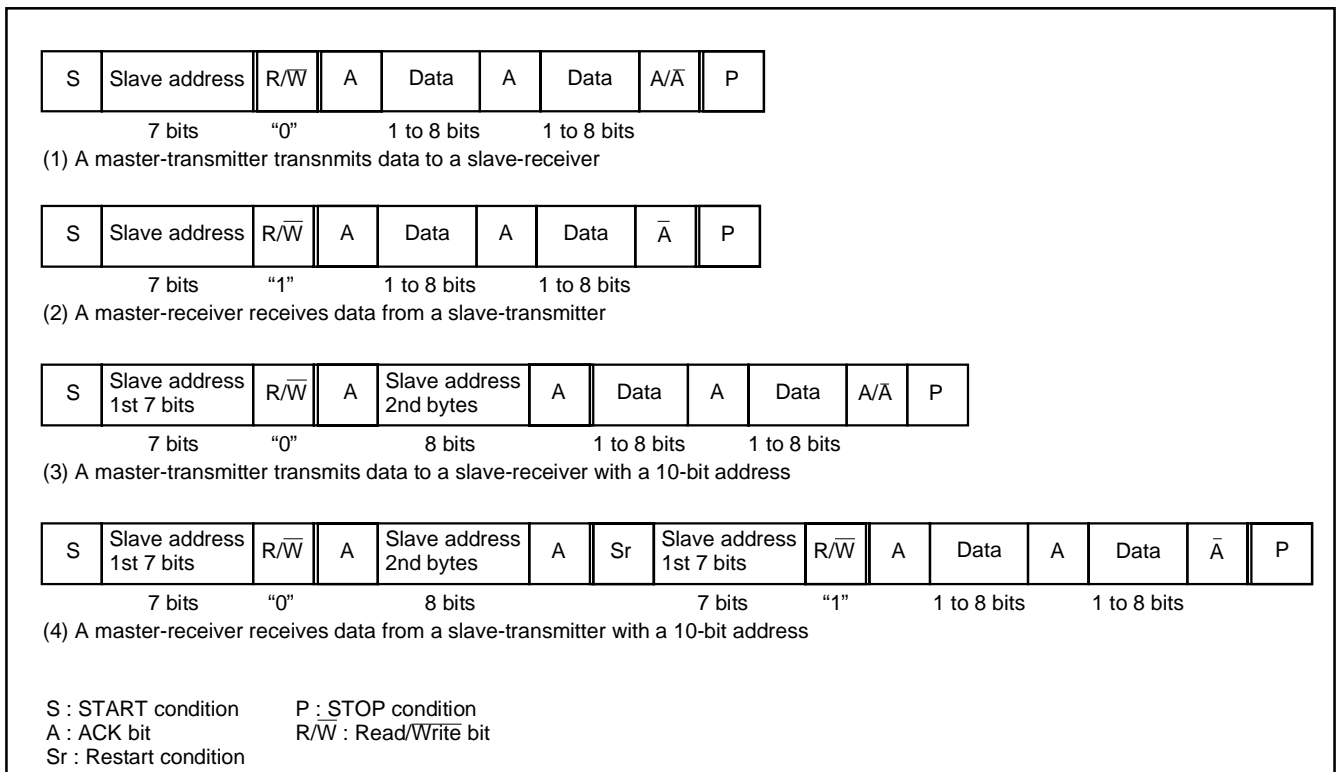

Fig. 42 Address data communication format
① 7-bit addressing format
To adapt the 7-bit addressing format, set the 10BIT SAD bit of the I²C control register (S1D) to "0". The first 7-bit address data transmitted from the master is compared with the high-order 7-bit slave address stored in the I²C address register (S0D). At the time of this comparison, address comparison of the RWB bit of the I²C address register (S0D) is not performed. For the data transmission format when the 7-bit addressing format is selected, refer to Figure 42, (1) and (2).
② 10-bit addressing format
When the first-byte address data agree with the slave address, the AAS bit of the I²C status register (S1) is set to "1". After the second-byte address data is stored into the I²C data shift register (S0), perform an address comparison between the second-byte data and the slave address by software. When the address data of the 2 bytes agree with the slave address, set the RWB bit of the I²C address register (S0D) to "1" by software. This processing can make the 7-bit slave address and $\overline{R/\overline{W}}$ data agree, which are received after a RESTART condition is detected, with the value of the I²C address register (S0D). For the data transmission format when the 10-bit addressing format is selected, refer to Figure 42, (3) and (4).